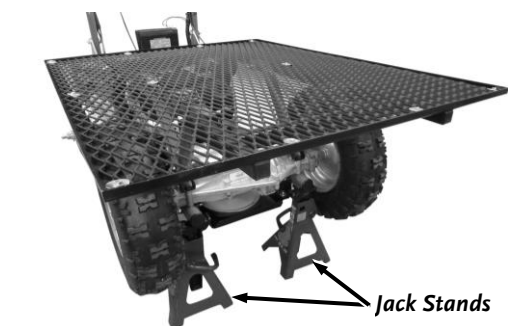

Figure 38
1. Position the machine on a level surface and support the front of the Frame with Jack Stands to lift the Wheels off the ground (**Figure 38**).